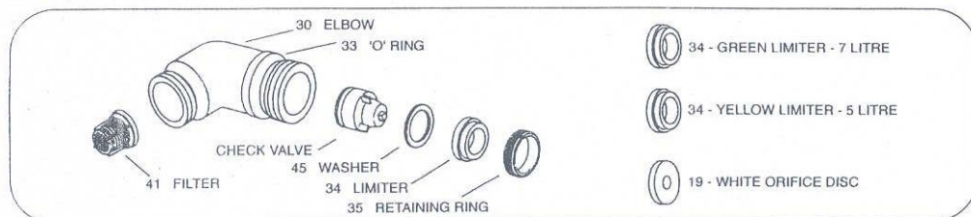

Fig 2.2 Elbow Assembly
2.7 Enclosed in your packaging are 2 off filters (37 or 51). These should be fitted to each inlet as shown in fig 2.2. However, for institutional installations we recommend the fitting of 'y' type strainers instead of these filters because of the more sensitive environment these valves will be expected to operate in.